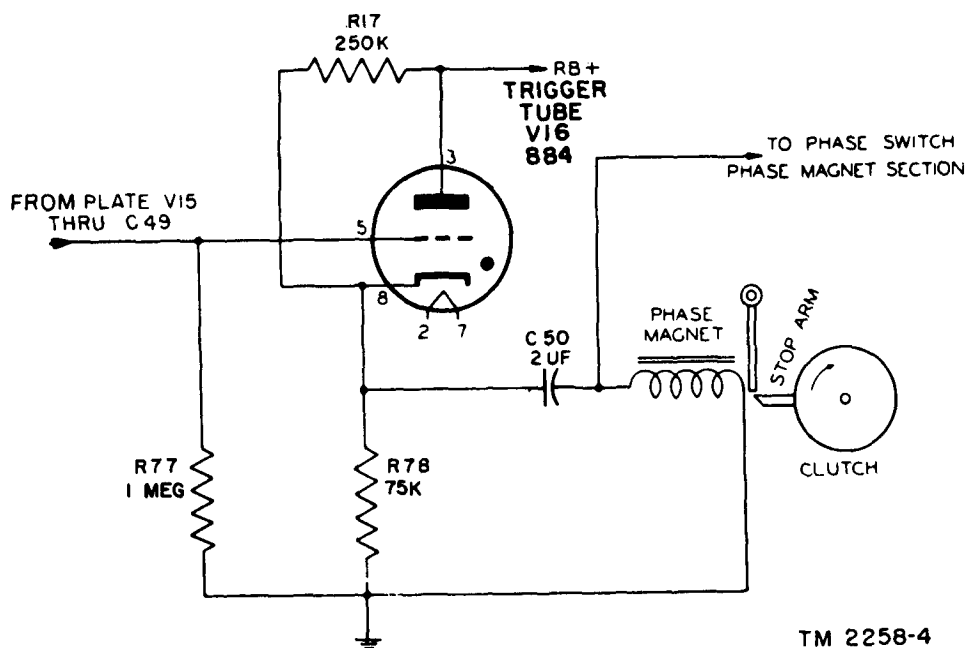

Figure 60. Trigger tube.
*d. Trigger Tube (V16)* (fig. 60). The trigger tube is a gas-filled thyratron, type 884 connected so that each phasing pulse applied to its grid causes the tube to arc and energize the phasing magnet. When the PHASE switch on the transceiver is operated, the normal holding current from the cathode circuit of tube V14 is removed, permitting the magnet armature to engage the stop arm on the primary clutch. Tube V16 has a positive potential of 250 volts applied directly to its plate from the regulated +250-volt supply. In the absence of a phasing pulse, the cathode is approximately 57 volts positive with respect to ground, being tapped onto the voltage divider composed of R17 and R78 across the regulated +250-volt supply. Since the tube grid is at ground potential, there being no voltage drop across grid resistor R77, the grid is effectively negative with respect to the positive cathode, and the tube is nonconductive. Capacitor C50 is charged 57 volts positive because, in series with the phasing magnet coil, it is across cathode resistor R78. When a phasing pulse on the grid of V16 causes the tube to arc, the voltage drop across the tube and across R17 is suddenly reduced to 16 volts, the characteristic voltage drop across this tube when it arcs; then the cathode potential suddenly becomes 234 volts, increasing approximately 177 volts in a positive direction. This sudden change in potential across C50 causes sufficient electron flow through the phasing magnet to attract the armature and release the stop arm on the clutch; but as soon as the charge on capacitor C50 is equalized by the current flow through the phasing magnet, the impedance of the cathode circuit again becomes very high (with R78 serving as a current-limiting resistor) and the tube arc is extinguished. The negative grid of the tube then resumes control, keeping the tube nonconductive and the phasing